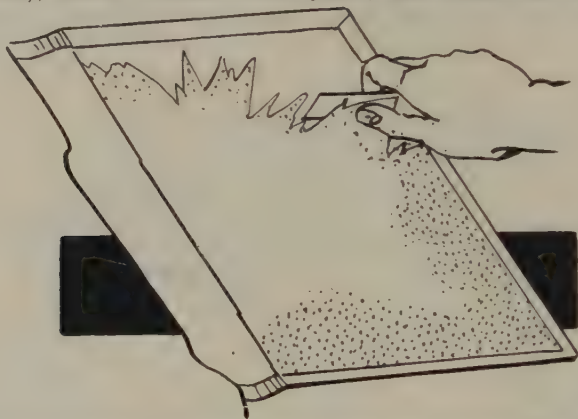

FIG. 213—PEELING OFF LINING PAPERS FROM INSIDE OLD COVER
3. With your binder's knife, peel away the white paper from cover all the way around the edges of both boards. (Fig. 213.)